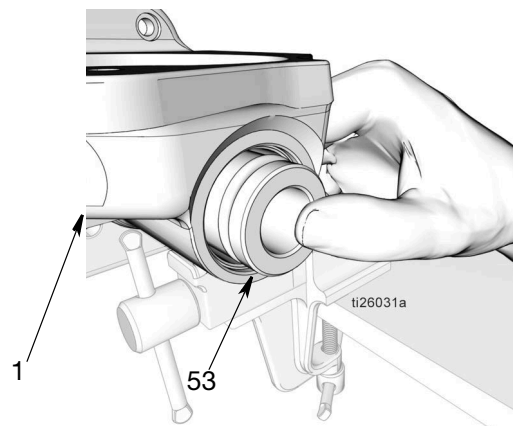

FIG. 42
- d. Use your thumbs to press the sleeve (53) into the pump base (1). Then using a soft rod, press the sleeve all the way down as far as possible (FIG. 42).
**NOTE:** Be careful not to scratch or damage the sleeve and/or pump base housing (1) when installing the sleeve in the pump base. Scratched or damaged surfaces will create a path for the fluid to leak during pump operation and will prevent the pump for operating correctly.